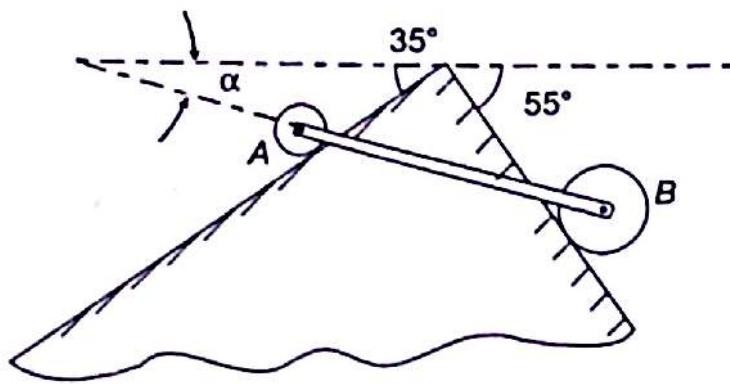

Fig. 3.52
- 3.6** Two wheels *A* and *B* of weight W_A and W_B respectively are connected by a rod *AB* of negligible weight and are free to roll on the surfaces shown in the Fig. 3.52. Determine the angle α for the rod, so that rod remains in equilibrium. Take $W_B = 2W_A$.